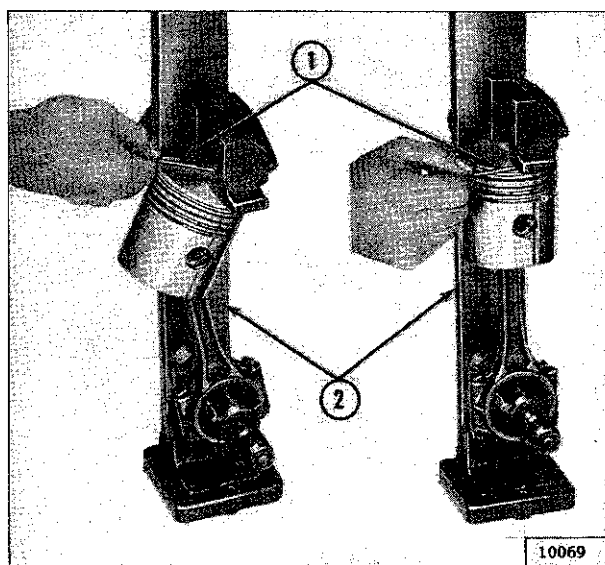

FIG. 40—CHECKING PISTON AND CONNECTING ROD ALIGNMENT
**f.** Place piston and rod assembly in a fixture and check alignment of the assembly as shown in Fig. 40. Follow instructions furnished with the fixture.